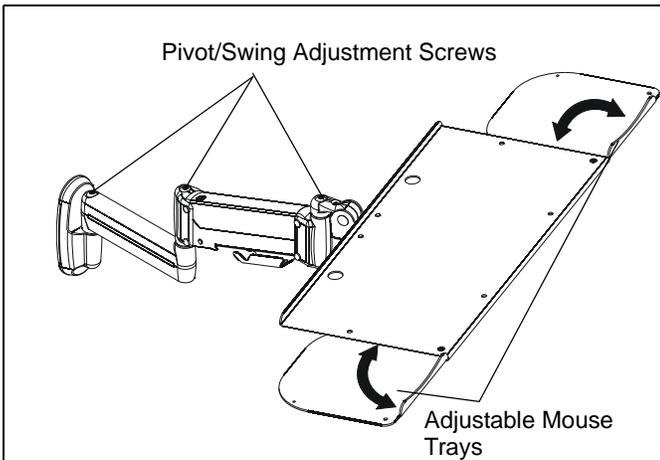

Figure 47
1. Using 3/16" hex key (Z), slightly loosen or tighten the adjustment screw(s) as necessary. (See Figure 47)
1. Mouse trays slide open and closed on both sides of the tray for both right-handed and left-handed users. (See Figure 47)